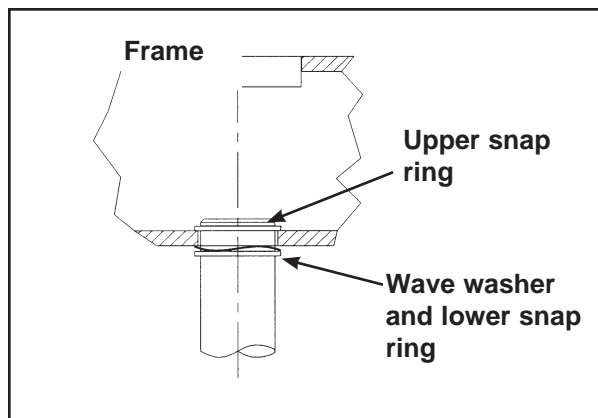

Figure 6A
**5. Install Weight Stack (refer to steps 5A - 5N and Figures 6A - 8).**